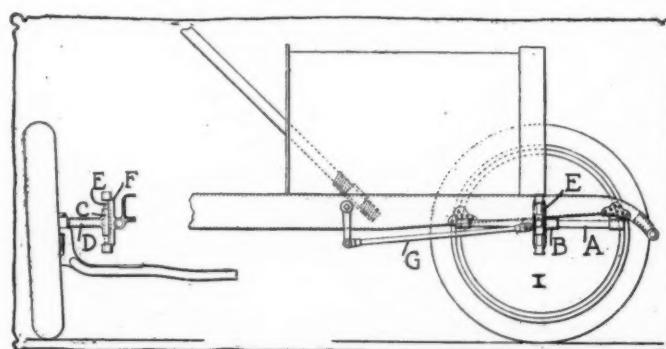

Fig. 5—Heilmann truck steering system applied to car
**PROPOSED STEERING SYSTEM**—In connection with the Heilmann truck wheel, which was illustrated and described in part in THE AUTOMOBILE of October 31, a steering system has been proposed which has the advantage over the customary method that the leverage with which force is applied grows larger instead of smaller the more the wheels are turned. Also, the steering rod moves in one plane, so that ball joints become unnecessary. A guide rod, A in Fig. 5, is secured to the frame reach. The sleeve B is mounted to slide upon it and forms a part of the knuckle F with pin E, upon which there is mounted the sleeve C with hollow lever arm D adapted to telescope upon a pin integral with the steering pivot and wheel spindle. Sleeve C can slide up and down on pin E in conformity with the action of the vehicle springs. The steering gear control is the usual one and the steering rod G attacks the sleeve B, moving it forward or backward on the rod A. The usual tie-rod connection from one wheel to the other is contemplated but is not shown in the drawing. The type of truck for which this steering system was specially designed has the spring suspension built into the wheels.—From *Bulletin Officiel*, September.